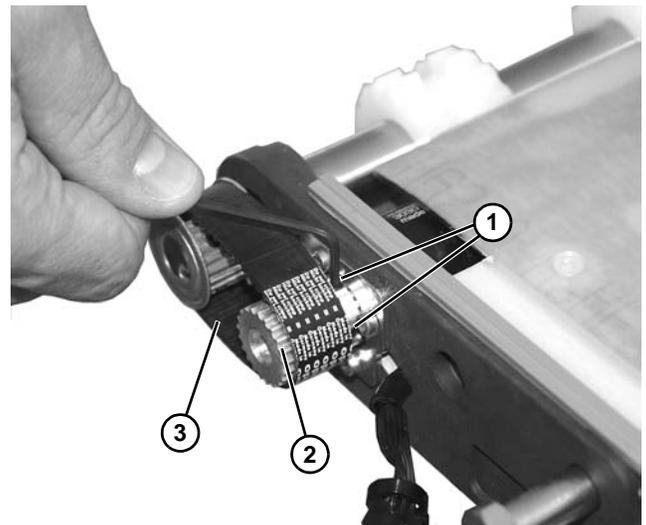

Figure 64
7. Loosen two set screws (Figure 64, item 1) on drive pulley (Figure 64, item 2). Slide drive pulley outward off of the gearmotor shaft, and remove timing belt (Figure 64, item 3).